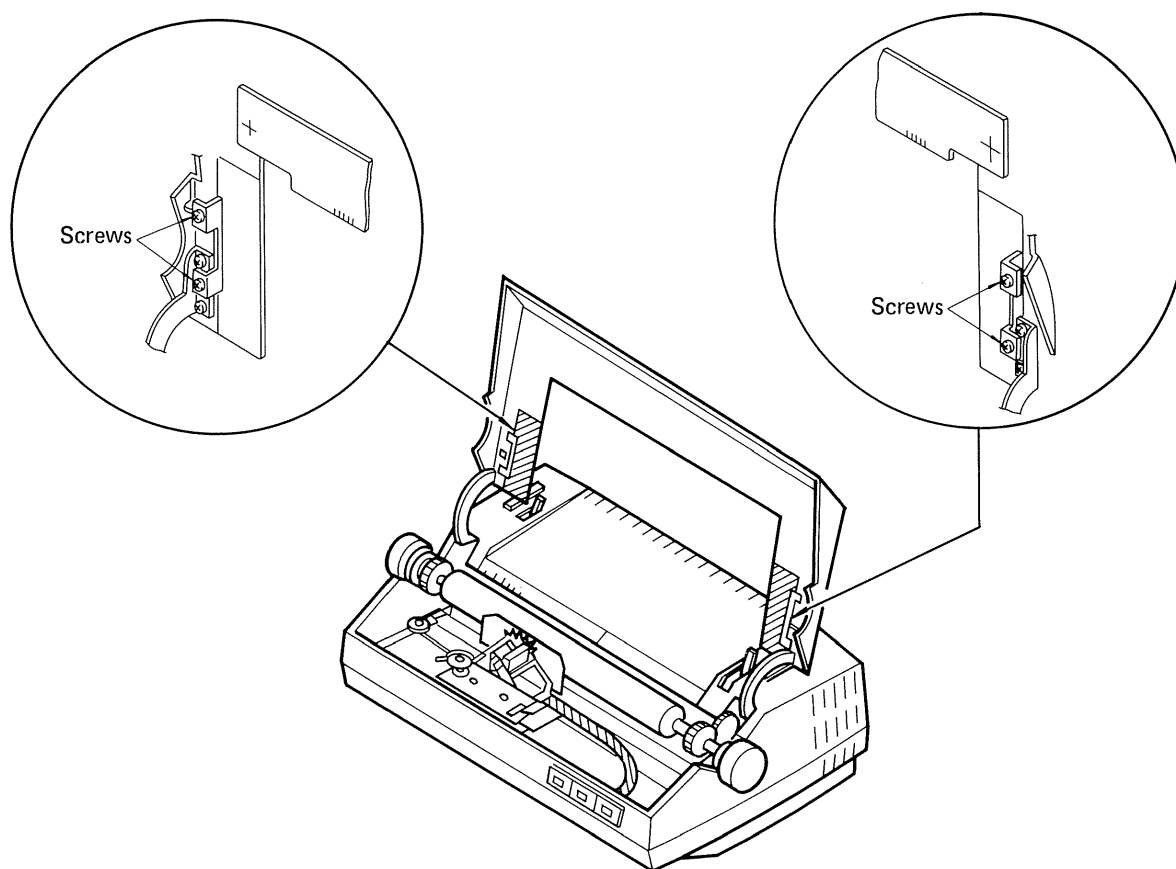

Figure 1
2. On each of the hinges (left and right) that hold the Cover, you'll find four screws. Take out the two smaller screws (on each side) and remove the Panels. (For safe keeping, re-insert the two screws into the holes.) See Figure 1.